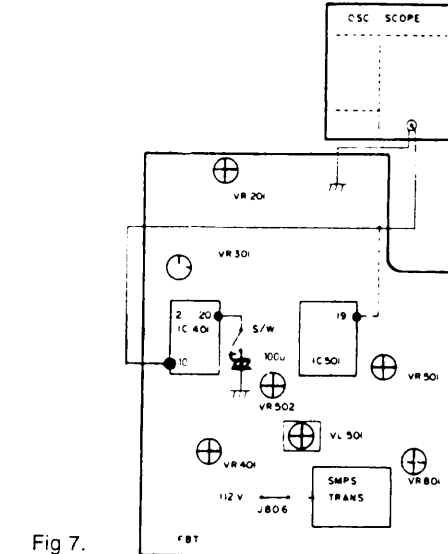

Fig 7.
- 1: Connect the chassis to instrument as shown in fig. 7.